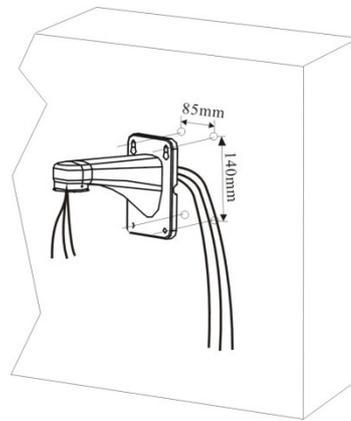

Fig.2
2. Fix bracket on the wall and put cables through the wall inside the bracket (fig.2).